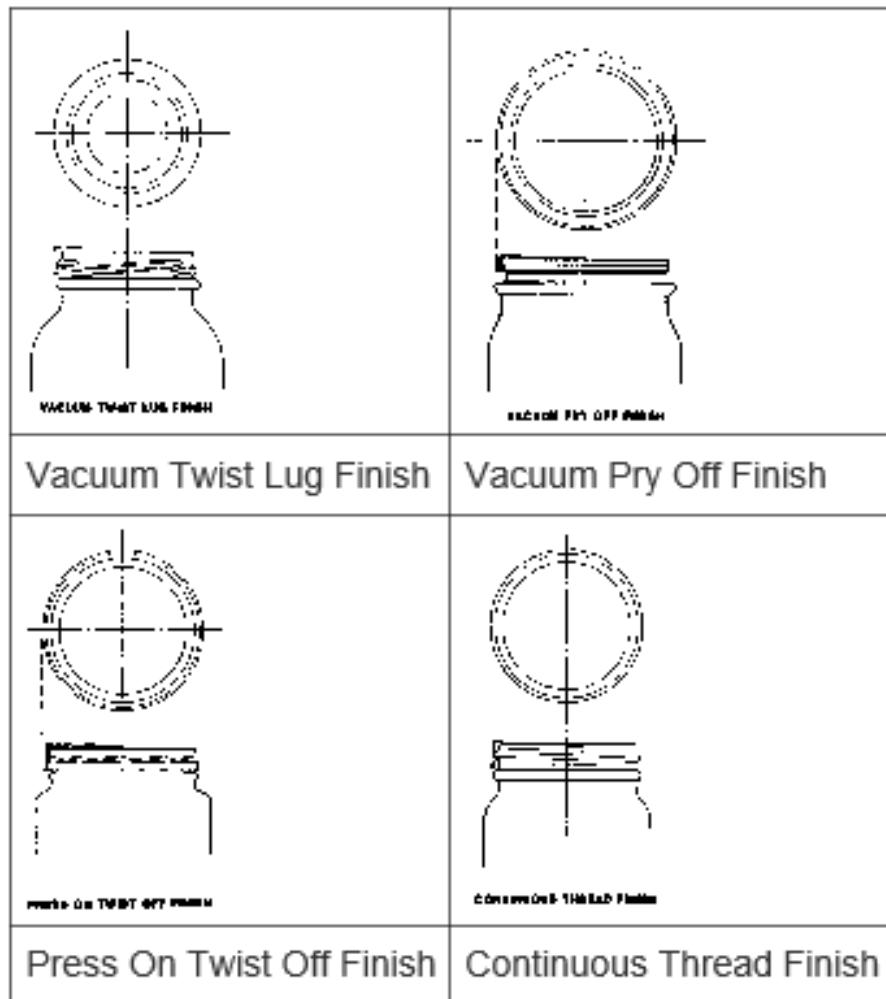

Figure 25. Types of vacuum closures and glass finishes.
Almost all low-acid foods packaged in glass containers are sealed with vacuum-type closures. Currently 4 types of vacuum closures are widely used on low-acid food products: LT (lug-type twist) cap, PT (press-on twist-off) cap, pyr-off (side seal) cap, and CT (continuous thread) screw cap (Fig. 25). Packers' tests and examinations to ensure a reliable hermetic seal of containers are required by 21 CFR 113.60 (a) (2) and (3).